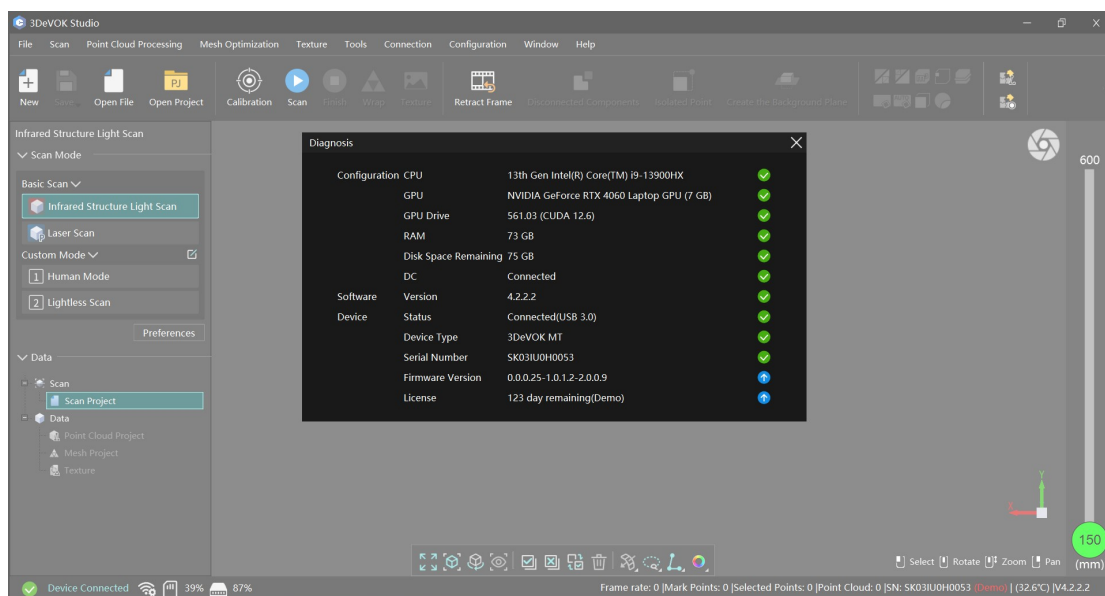

Figure 5-4 Check the Firmware Version
1. Check the "Firmware Version" section. For V4.2.2.2, ensure the parameters are configured as 0.0.0.25-1.0.1.3-2.0.0.10. Otherwise, click the  button to import the update files, which is shown in Figure 5-4.